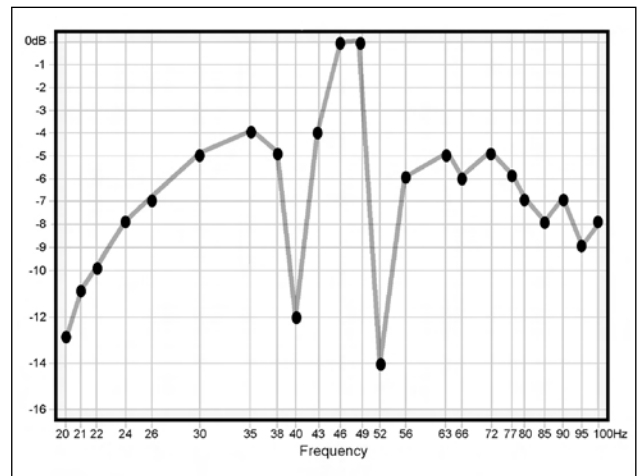

Figure 19. Example of two narrow dips
1. Select a new test position: Cue the test track corresponding to the center frequency of the dip. In the example in Figure 19 you would play Tracks 14 (52Hz) and 18 (40Hz). Press **Play** ▶. You will see a reading very close to what you had before. Now, slowly move the RSLM around the area, if possible remaining within about a foot of the original test point. As you move the RSLM, watch the bar graph. You will observe large level fluctuations. Find a location for the subwoofer or a test location that raises the response at these frequencies. You may find it helpful to move the RSLM vertically. Dips can be oriented in any axis. The position that restores the level to about that of the adjacent test points is your new test position.